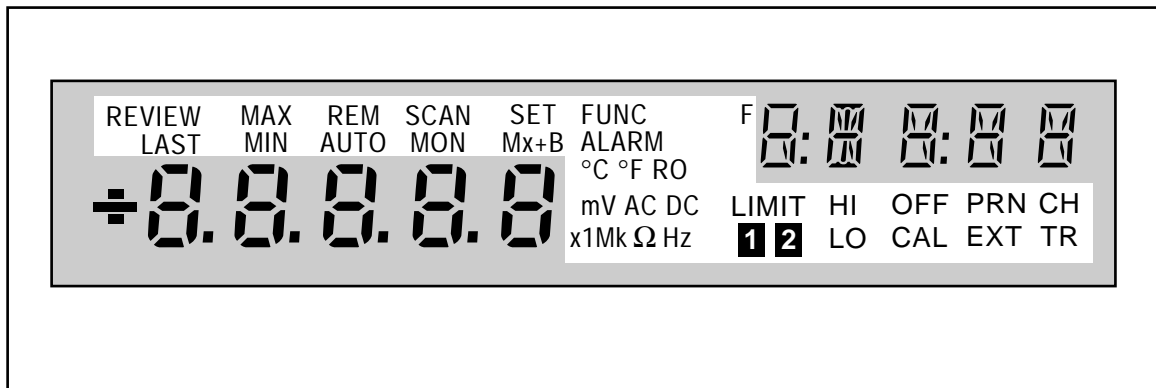

Figure 2-5. Annunciators
- A set of Display Annunciators. See Figure 2-5 and Table 2-1.
The rest of the display is devoted to specific annunciators, combinations of which are used to describe the operating mode, the type of measurement being displayed, or the type of setup information to be entered. These annunciators are described in Table 2-1 and shown in Figure 2-5.